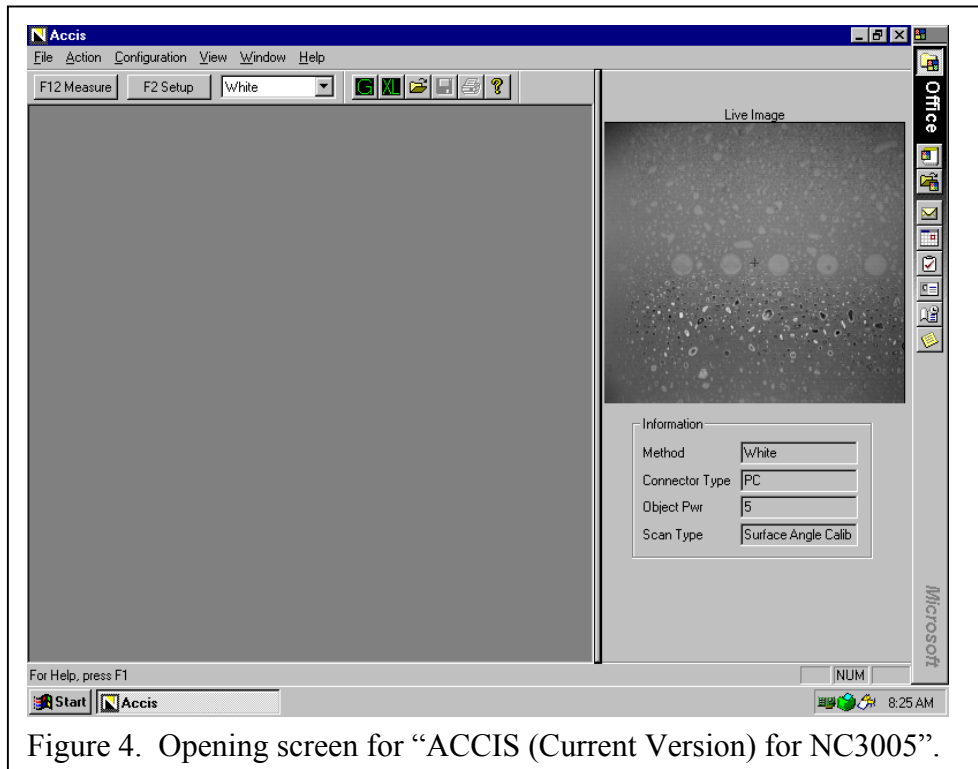

Figure 4. Opening screen for “ACCIS (Current Version) for NC3005”.
5. Start the program. Launch “Accis (current version) for NC3005”. You should see a window that looks like Figure 4.